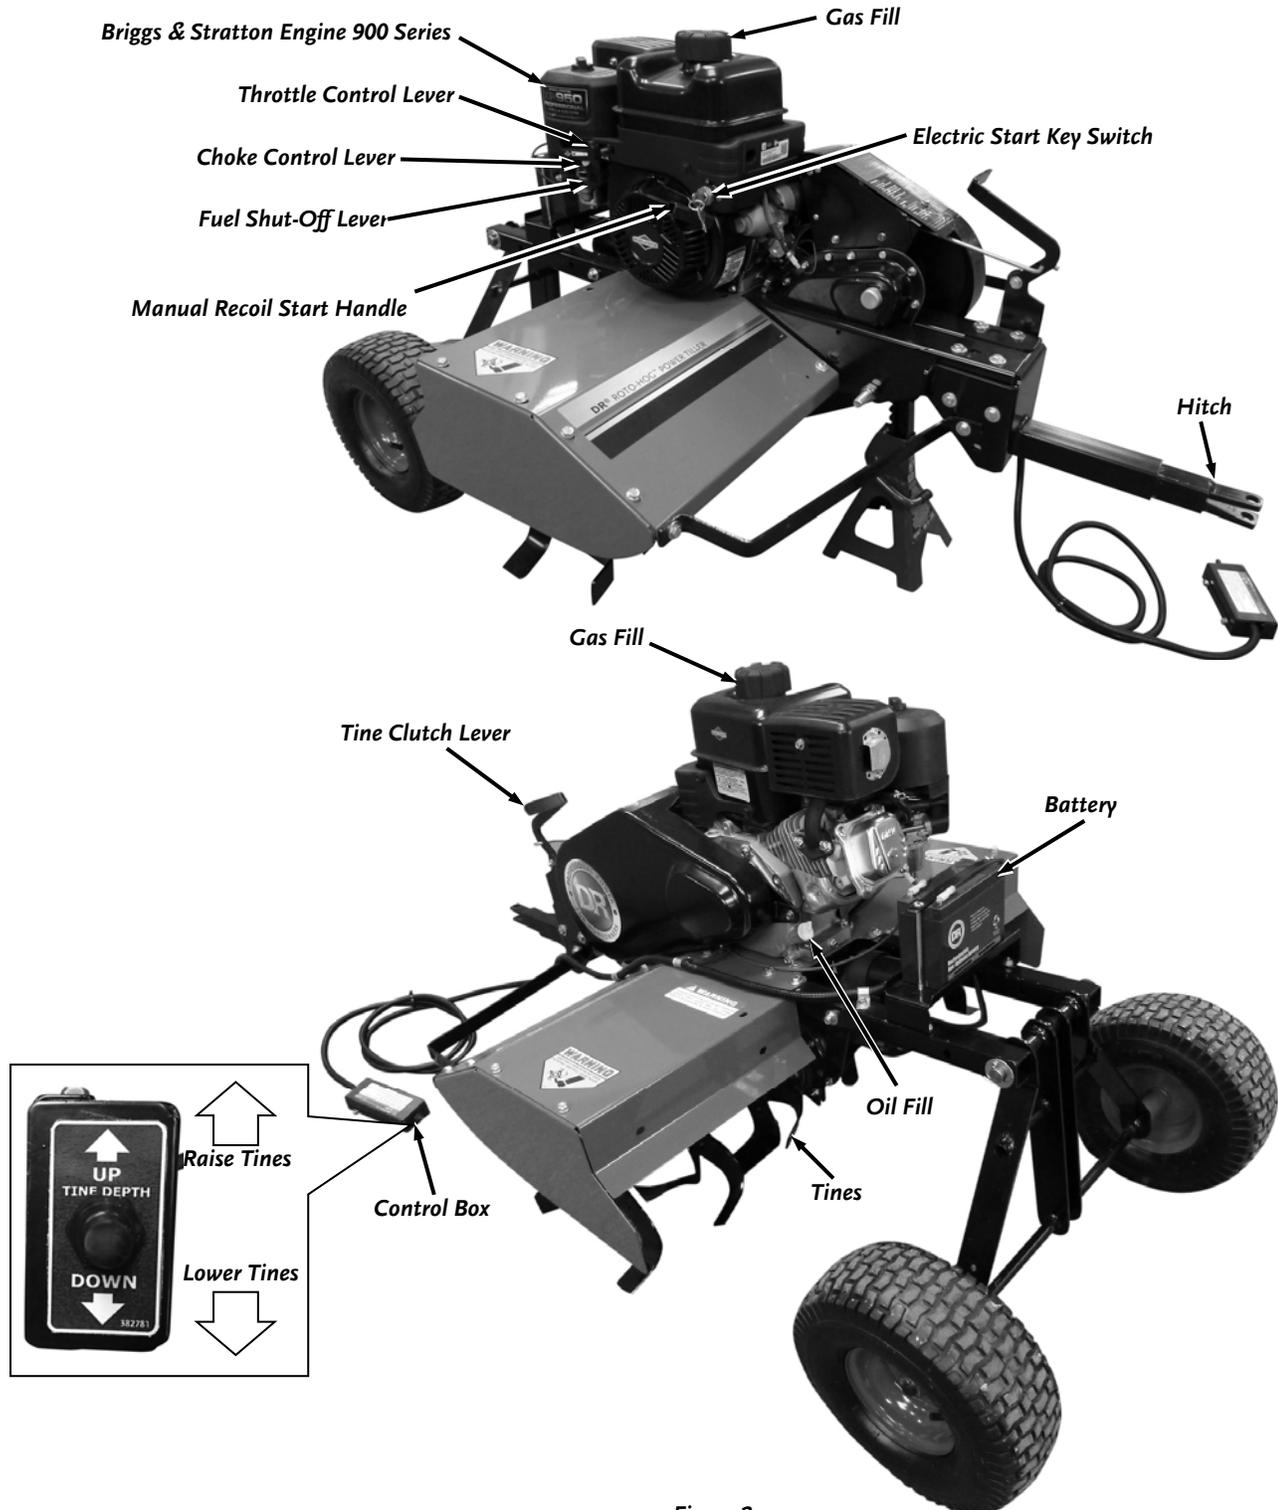

Figure 2
It may be helpful to familiarize yourself with the controls and features on your new machine by reviewing Figure 2 before beginning the steps outlined in this chapter. For technical assistance, please visit our website at [www.DRPower.com](http://www.DRPower.com).
**Note:** The model shown in Figure 2 may look slightly different from your machine.